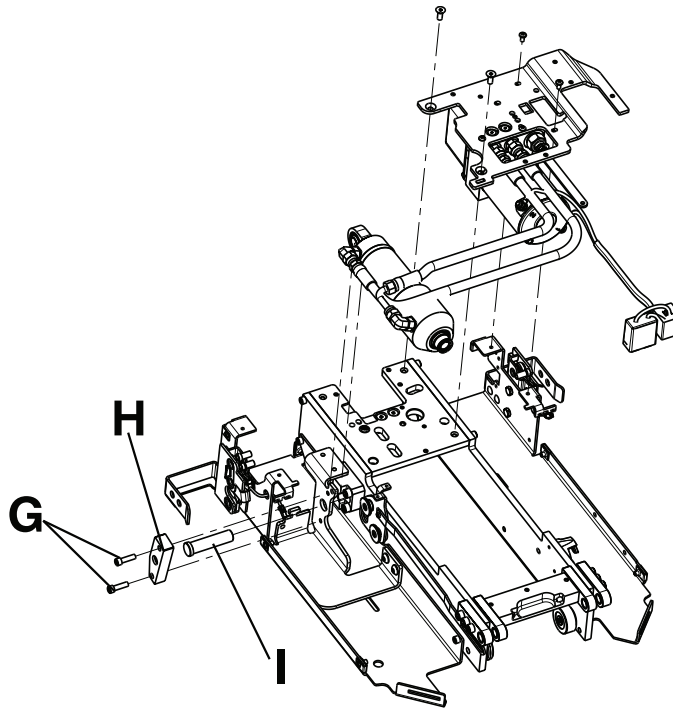

Figure 17 – Pin and hydraulic cylinder removal
11. Using a 3/16" hex wrench, remove the two screws (G) that secure the pin bracket (H) to the trolley (Figure 17).
12. Remove the pin (I) and lift the hydraulic cylinder out (Figure 17).